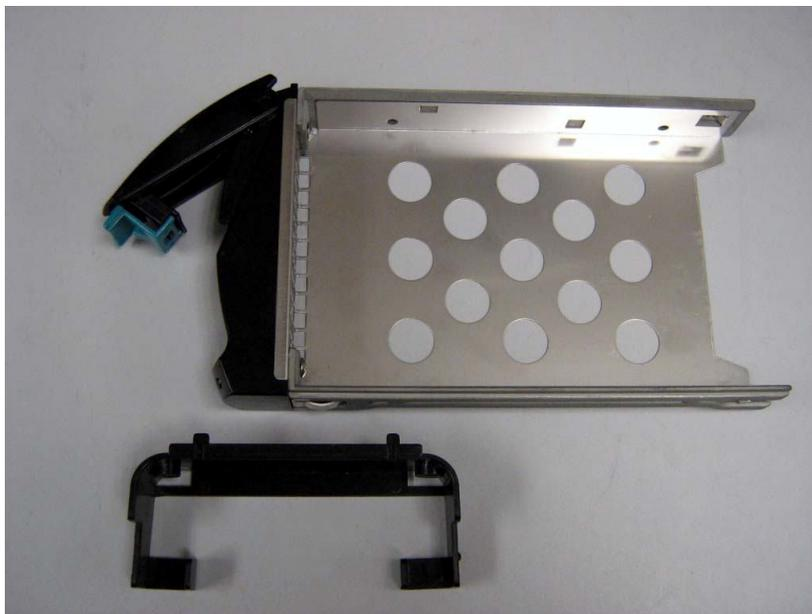

Figure A-18 Tray with Air Dam Removed
2. Your tray should now look like Figure A-18.